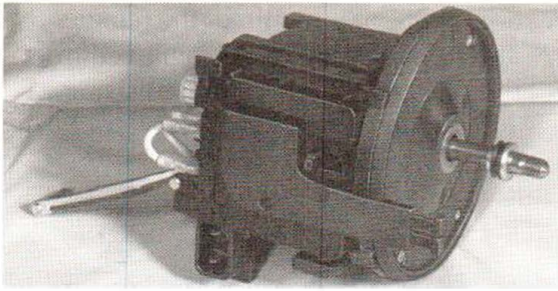

Figure 28. Spacer/Seal Position
- Spacer/seal assembly should be installed with flat side of rubber seal against spacer as shown in Figure 28.